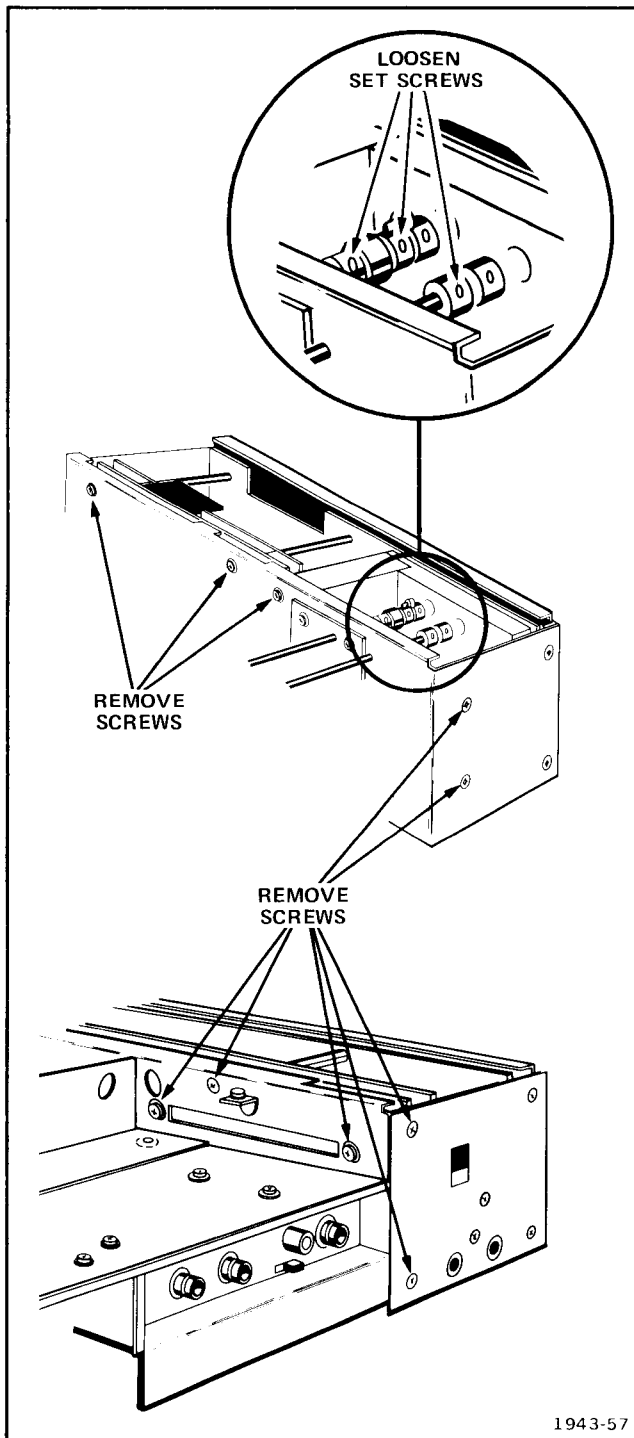

Fig. 4-9. Power supply and high voltage section removal.
4. Remove the screws shown in Fig. 4-9.